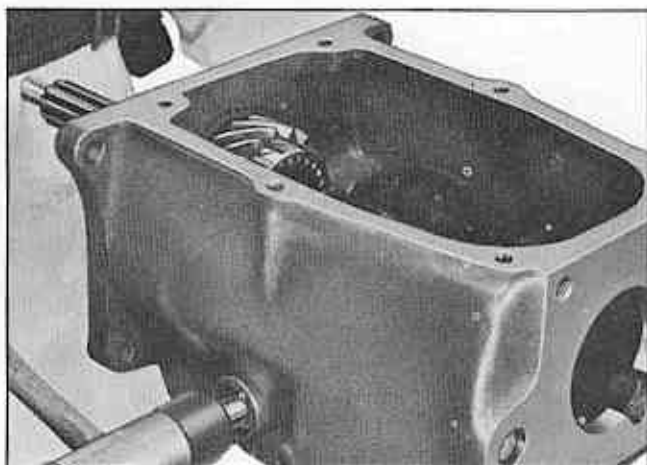

Fig. 26 Removing Selector Shaft
12. Pull selector shaft to left and remove interlock retainer from groove in right end of selector shaft and using a soft hammer drive the shaft out through right side of transmission case (See Fig. 26). The welch plug in right side of case will be driven out by the shaft. Do not allow shifter levers and interlock to drop into case. CAUTION: When replacing selector shaft, be sure to install from left side of case toward right in order to avoid damaging oil seal.